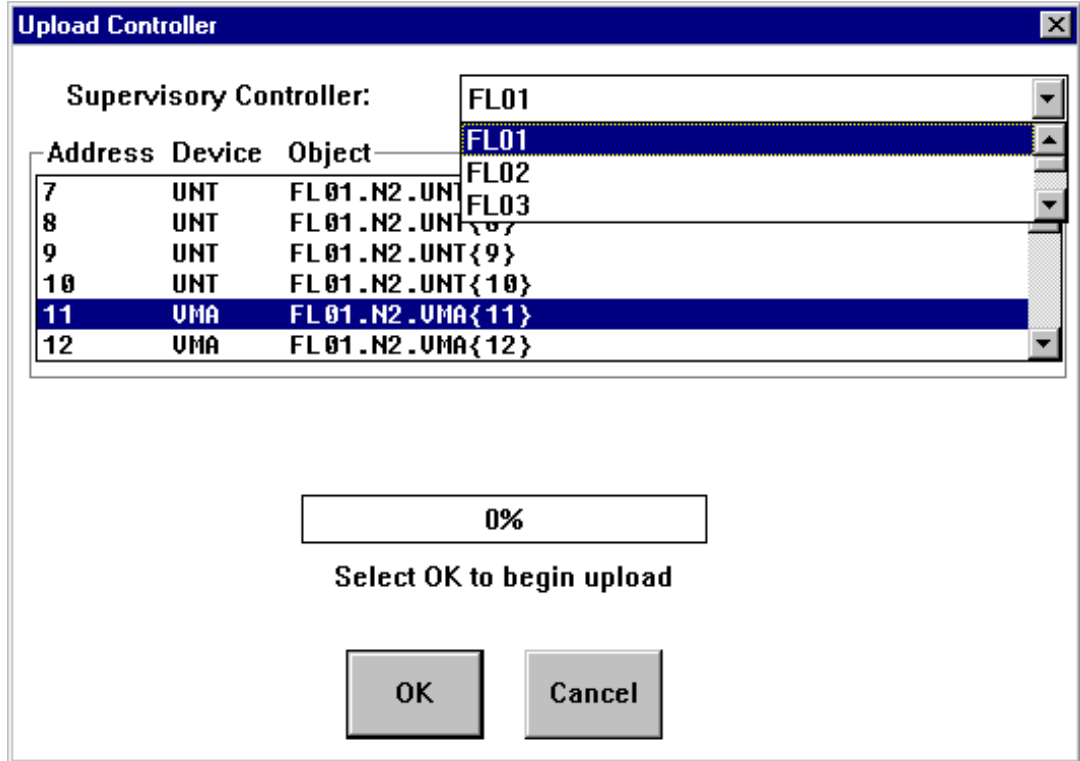

Figure 17-4: Upload Controller Dialog Box
1. On the Upload menu, click Configuration in Controller. The Upload Controller dialog box appears (Figure 17-4).